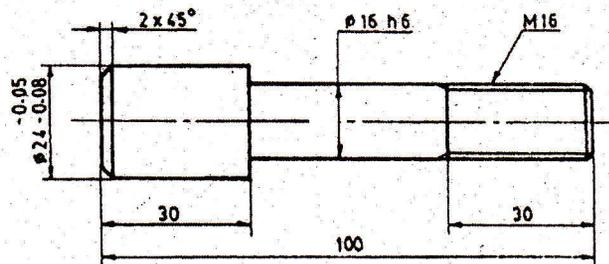

Fig: 2 Locating pin
3. A locating pin shown in figure 2 is to be manufactured in a machine shop. Prepare an operation chart incorporating the following details.